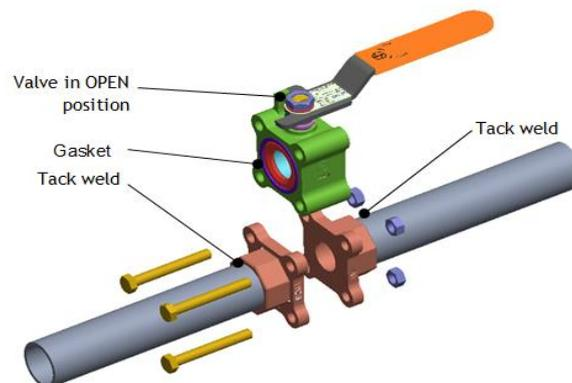

Fig. 5 Three-piece ball valves Welding
- Tighten the nuts uniformly with a torque as given in the Table 3 & 4 and in the sequence shown in Fig 5.